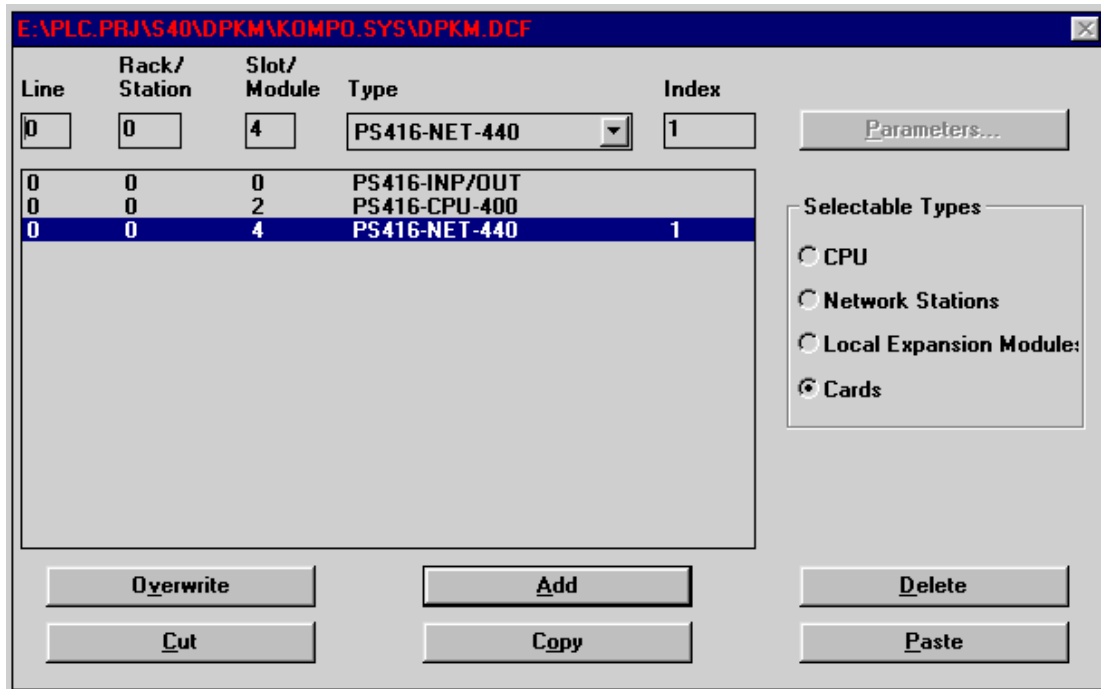

Figure 10 – S40 Device Configurator
- Figure 10 shows the dialog box for the hardware configuration of the PLC rack. The example includes also some digital I/O.